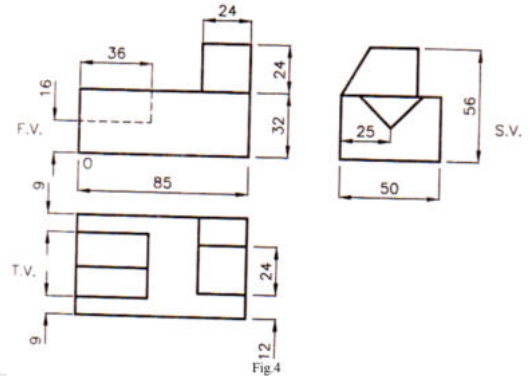

Fig 4
4. (S-19) Draw isometric view from the orthographic projection shown in Fig. 4.
[Refer to Fig. 4 from Paper: Summer 2019]